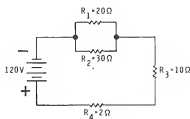

Figure 1-93
21. What is the total resistance of the circuit of Figure 1-93?
22. What is the total current in the circuit of Figure 1-93?